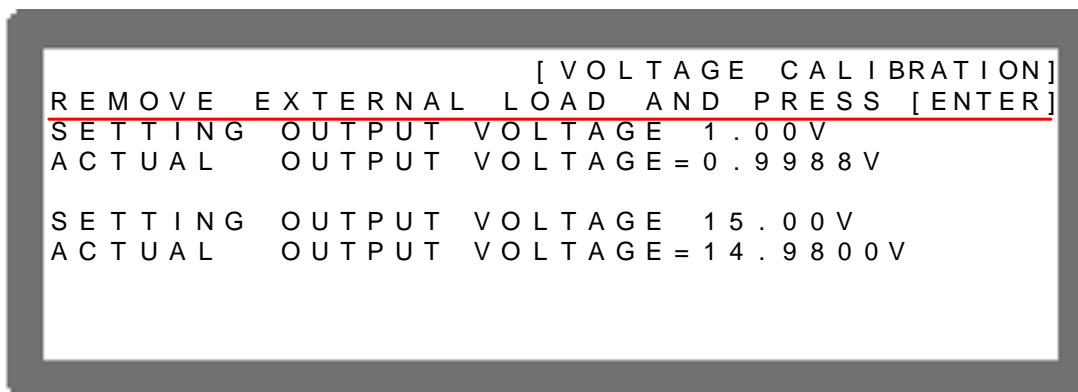

Figure 3-95
- Press “” to confirm entering into voltage calibration options as Figure 3-95 shows.